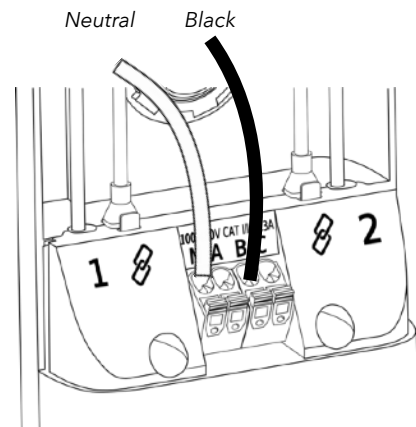

Fig 8
- Single Phase Panel. **Fig 8.**